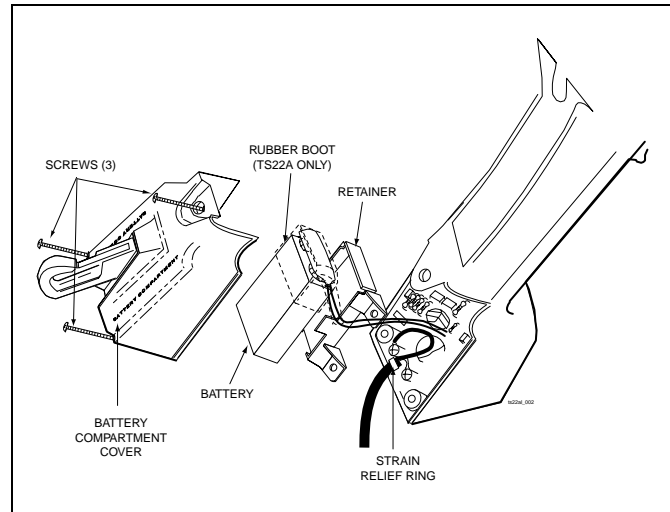

Figure 6. Replacing the Monitor Speaker Battery
To replace the Monitor Speaker Battery (see Figure 6):
5. Replace the retainer, cover, and screws. Strain relief ring must be inside the case as shown in Figure 6. Avoid pinching battery wires.